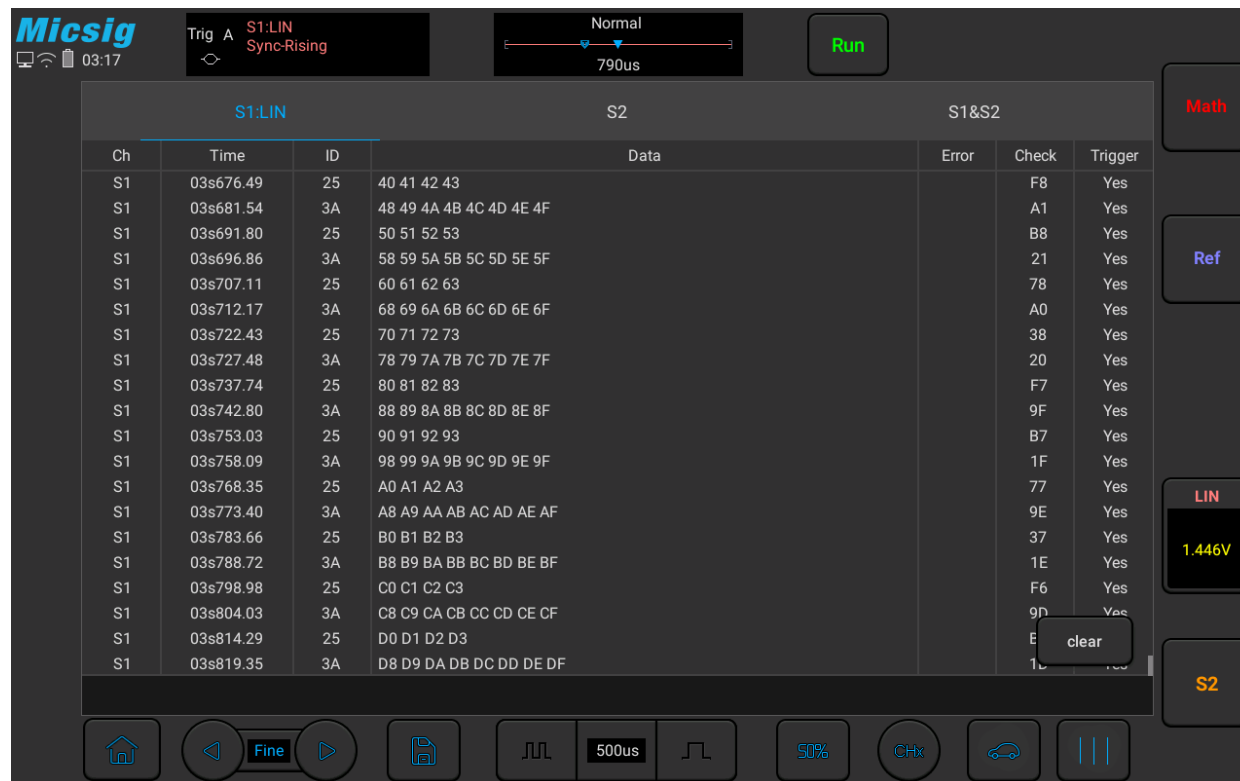

Figure 12-13 LIN Text Interface
**LIN text interface description, as shown in Figure 12-13:**
- (1) “Ch”: bus channel.
- (2) “Time”: Time intervals between the last frames to current frames.
- (3) “ID”: Frame ID value.
- (4) “Data”: Frame data.
- (5) “Parity sum”: Frame parity sum, the sum of parity error displays in red.
- (6) “Trigger”: “Yes” means the frame reaches trigger condition.
- (7) “Clear”: Clear counter data.